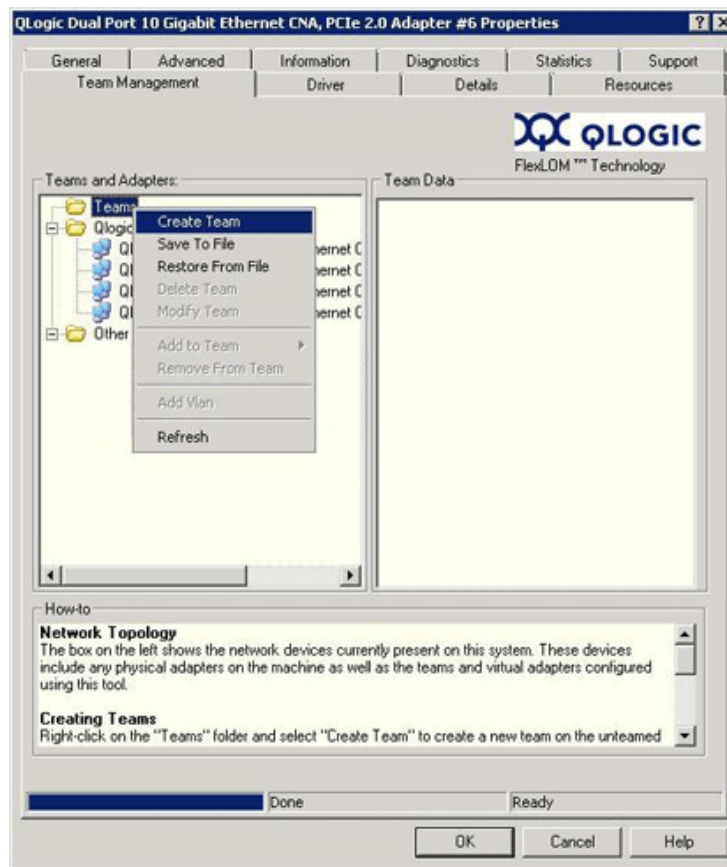

Figure 8: Creating a Team
1. To create a team, right-click the **Teams** folder icon, and then click **Create Team** (Figure 8).